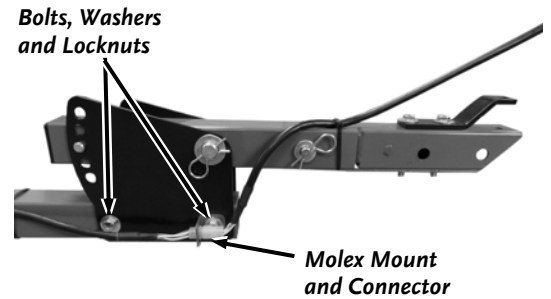

Figure 38
- Remove the Connectors from the Molex Mount (**Figure 38**).
- Position the Tow Bar to the lowest position (on bottom) for tall hitch aggressive scarifying (**Figure 38**).